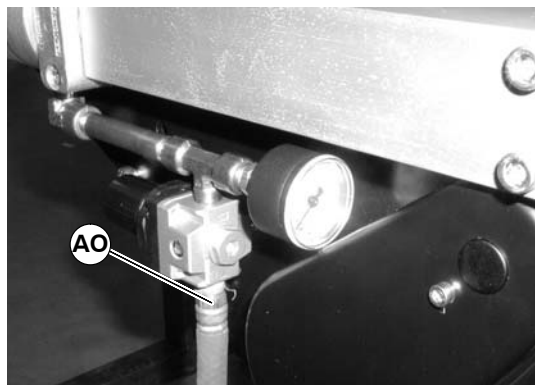

Figure 19
1. Remove air supply and remove hose (AO of Figure 19) from center drive.